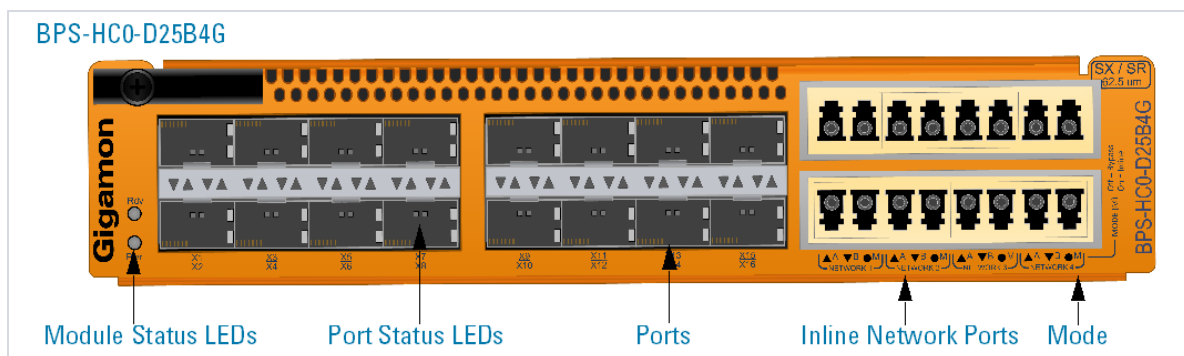

Figure 14: Bypass Combo Module BPS-HC0-D25B4G
- Bypass Combo Module with four SX/SR (62.5/125µm multimode) inline network port pairs and sixteen regular SFP+ port cages (BPS-HC0-D25B4G) (Figure 14: Bypass Combo Module BPS-HC0-D25B4G on page 22)